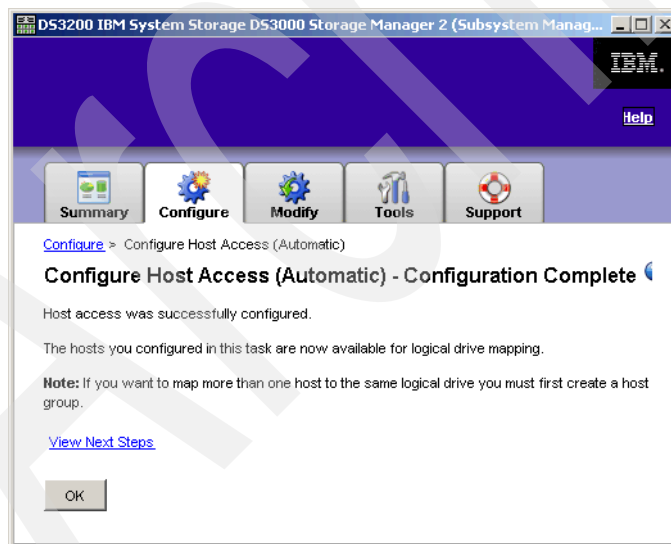

Figure 16-11 Automatic host configuration is complete
3. Click **Add** to place the host in the Selected Hosts window, then click **OK**. This completes the automatic host configuration. Figure 16-11 confirms that our configuration was successful.